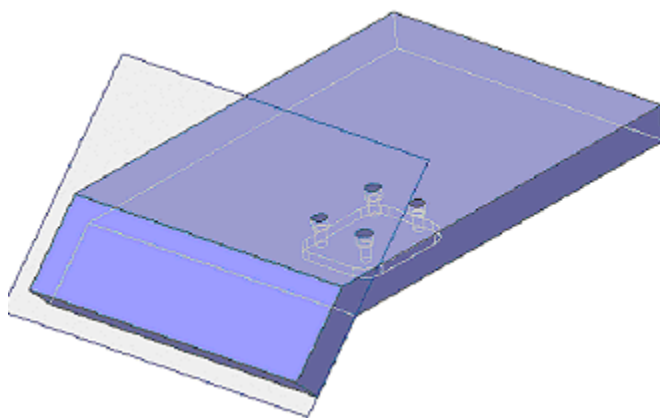

Figure 17: Completed part.
4. Finish the sketch and extrude the rectangle one inch to match Figure 17.